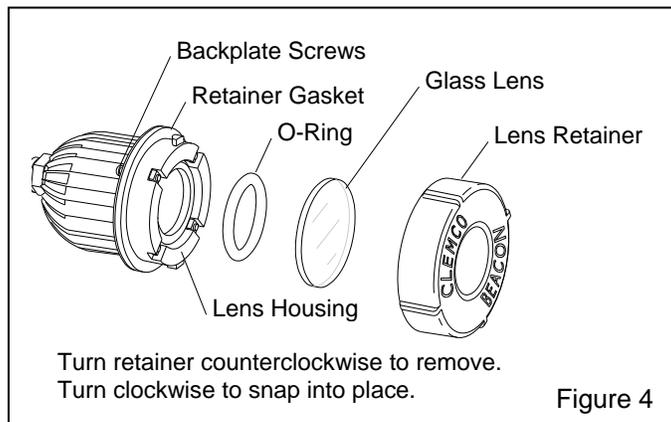

Figure 4
**5.1 Cleaning and Replacing the Outer Protective Glass Lens, refer to Figure 4**